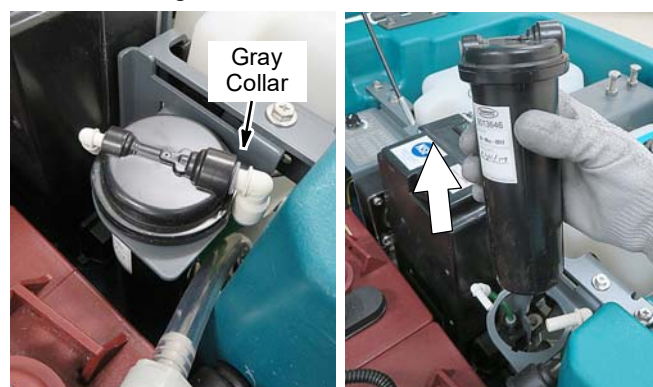

FIG. 143
3. Disconnect the two hose connectors from the top of the cartridge by pressing the gray collars inward and pulling the connectors outward (Figure 143). Lift cartridge to remove.